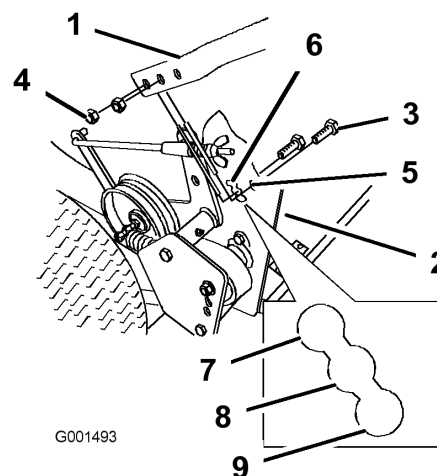

Figure 14
2. Loosen the upper bolts (3/8 x 1-1/4 inches) and flange nut securing handle to rear frame (Figure 14).
3. Remove the lower bolts (3/8 x 1 inch) and flange nuts securing handle to rear frame (Figure 14).